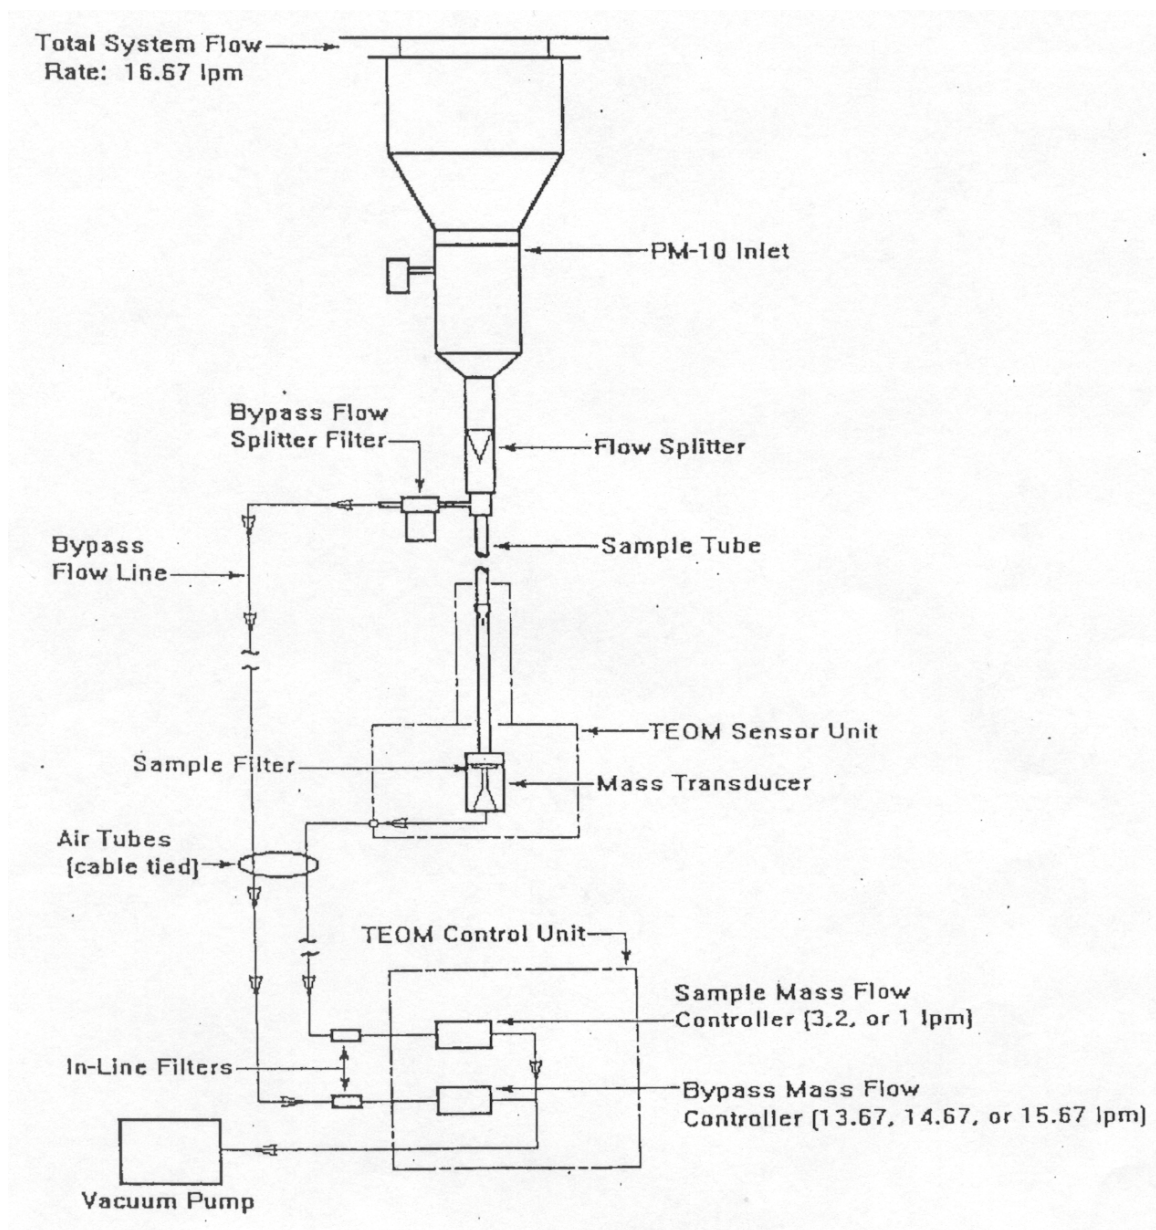

Figure V.2.0.1
Audit procedures presented here are specific to the Rupprecht & Patashnick Series 1400A Tapered Element Oscillating Microbalance (TEOM) monitors (Figure V.2.0.1 and V.2.0.2) that operate at a designed flow rate of 16.7 liters per minute (LPM). Audit techniques may vary with other models due to differences in required flow rates and sampling configurations. A complete audit also includes verifying that the operator prior to the audit has performed the proper sampler maintenance procedures. Before the audit, verify from the operator that all-appropriate maintenance, scheduled calibrations, and unit checks have been performed.
14. Disconnect the bypass flow line where it connects to the bypass flow splitter filter (location in Figure V.2.0.1).